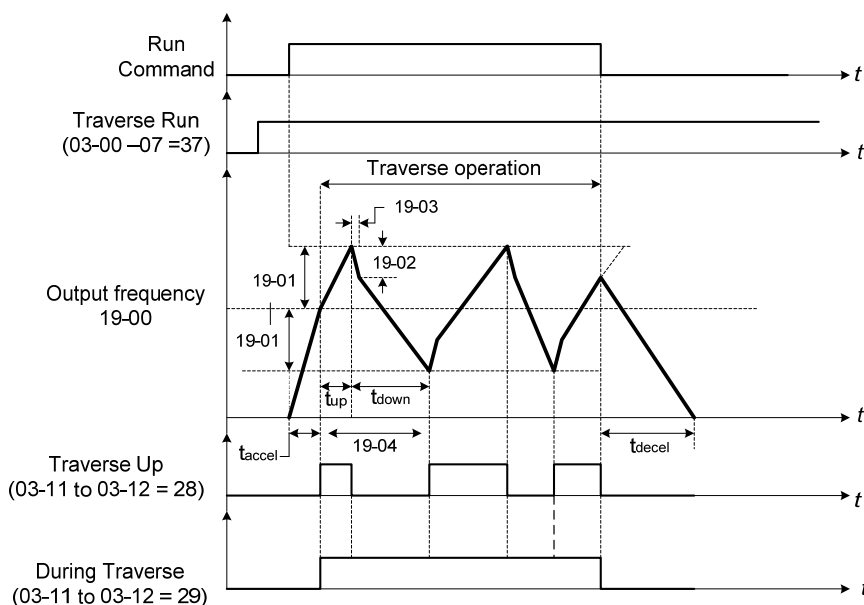

Figure 4.3.105 ON/OFF control of wobble
- . Refer to the following figure 4.3.105 for the ON / OFF control of wobble